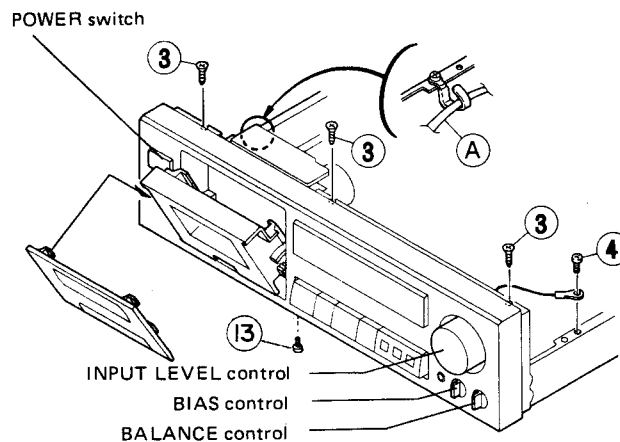

Fig. 2-2
- 4) Remove one screw ④ retaining the earth lug to right chassis.
- 5) Remove the TIMER wire from the connector (CN702) (A).
- 6) Remove four screws ⑤ retaining the front panel ass'y from both sides.
- 7) Remove one screw ⑬ which retains a P.C. board to the mechanism holder from the bottom side (see Fig. 2-2).